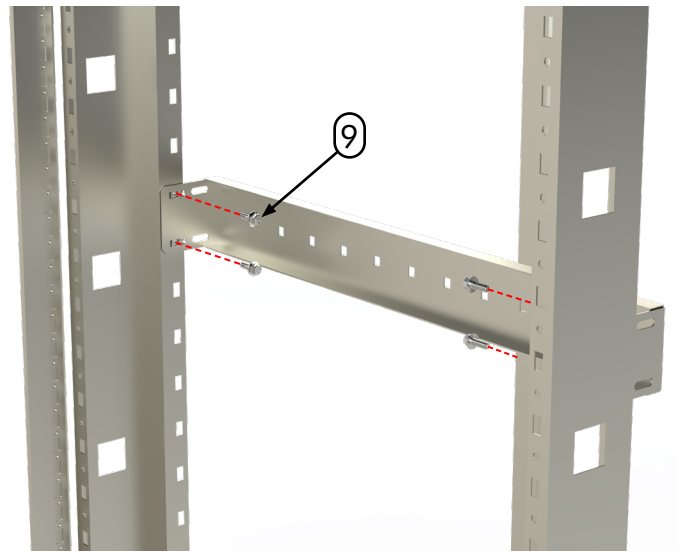

Figure 6
- Use M6x16 hex screws (Item 9) to fasten the CPR or MTK to the TMK via the installed cage nuts (Figure 6).